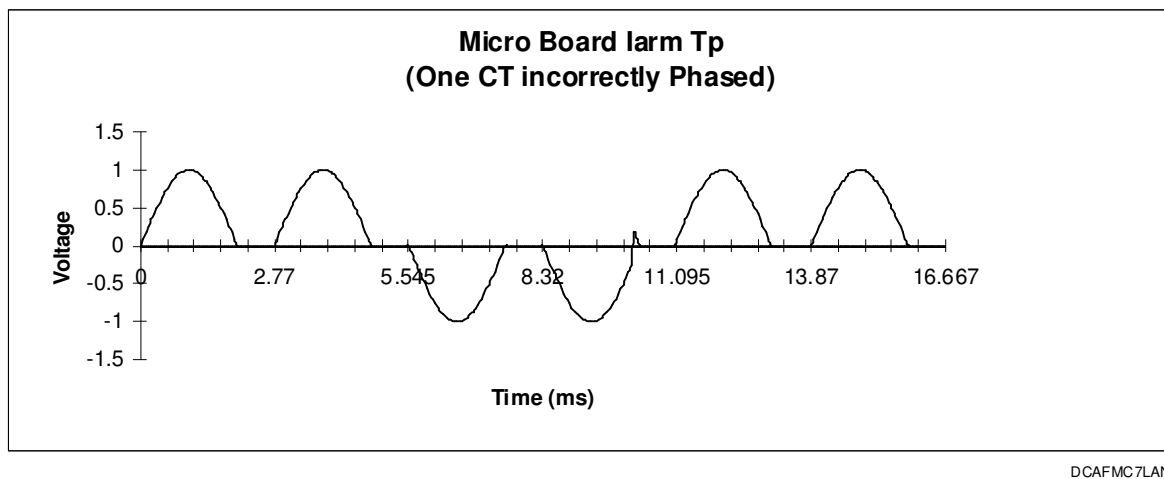

Figure 3-7. Micro Board Iarm TP
- 17) If the voltage waveform observed on the scope has some positive segments and some negative segments as shown in Figure 3-7, then follow either the 3-CT or the 2-CT feedback phasing method, using the type your application has been configured with.